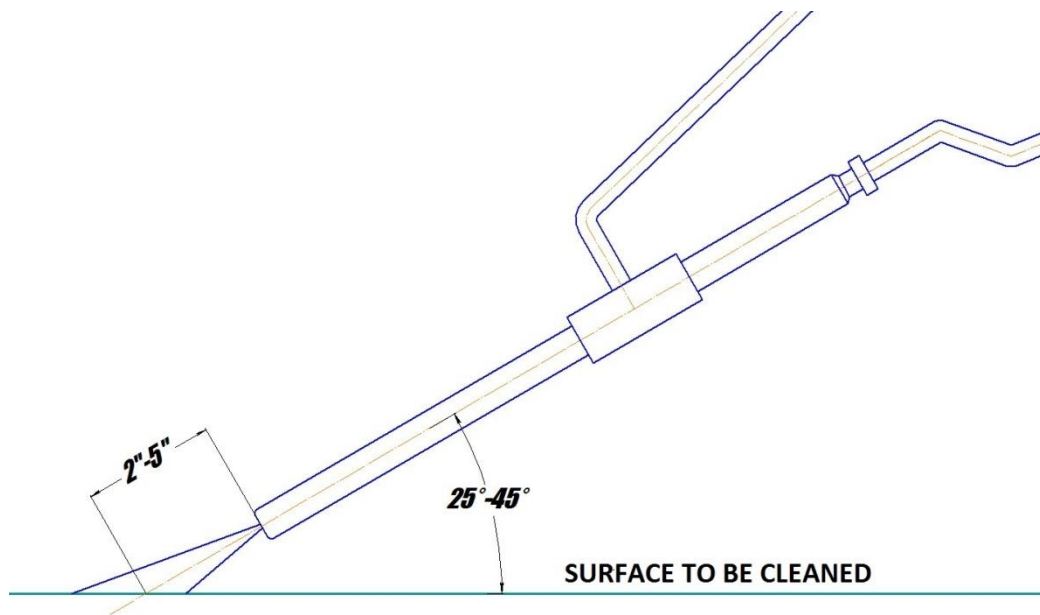

Figure 5.2 – Lance Position for Best Cleaning Results
Once the hydraulic power unit is operational and the water jet stream is flowing from the lance, the ROV operator has to find the most effective distance between the lance nozzle and the surface being cleaned. (See Figure 5.2)
2. The most efficient operating technique is to hold the nozzle 2-5 inches (5-12 cm) away from the surface to be cleaned and at a 25 to 45 degree angle to the surface being cleaned (See Figure 5.2). The ROV operator needs to observe the shape of the cavitating jet cone. At greater depths, the higher ambient pressure will cause the jet cone to be shorter. The widest zone of the cone is the most efficient part of the cavitating jet. Placing the nozzle closer than 2 inches (5 cm) from the surface being cleaned will not allow for efficient cavitation performance and will degrade the cleaning capability of the CaviBlaster® system.